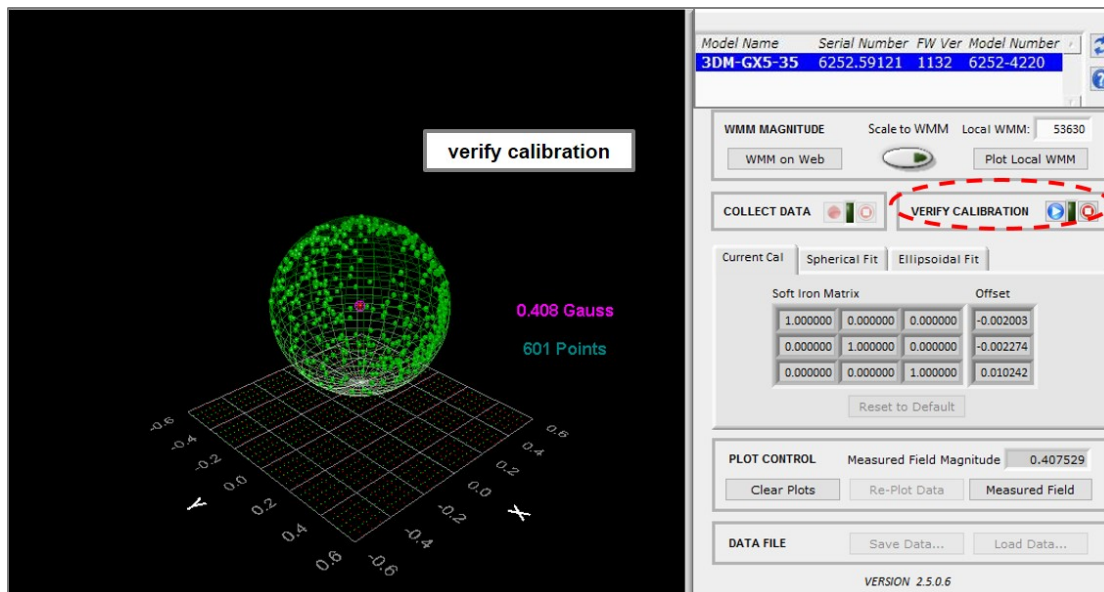

Figure 22 -Verify Calibration
9. Start a calibration verification by clicking the Start Streaming Data button next to Verify Calibration (Figure 22 - Verify Calibration). Rotate the device in all orientations in the same way as during calibration. When completed click the Stop Streaming Data button next to Verify Calibration. The resulting data points should be on or near the spherical grid. Hold the left mouse button and drag to rotate the image. The mouse wheel can be used to zoom in and out. If the fit is not close, the sensor may require re-calibration. If it is close, as shown, calibration and verification is complete.